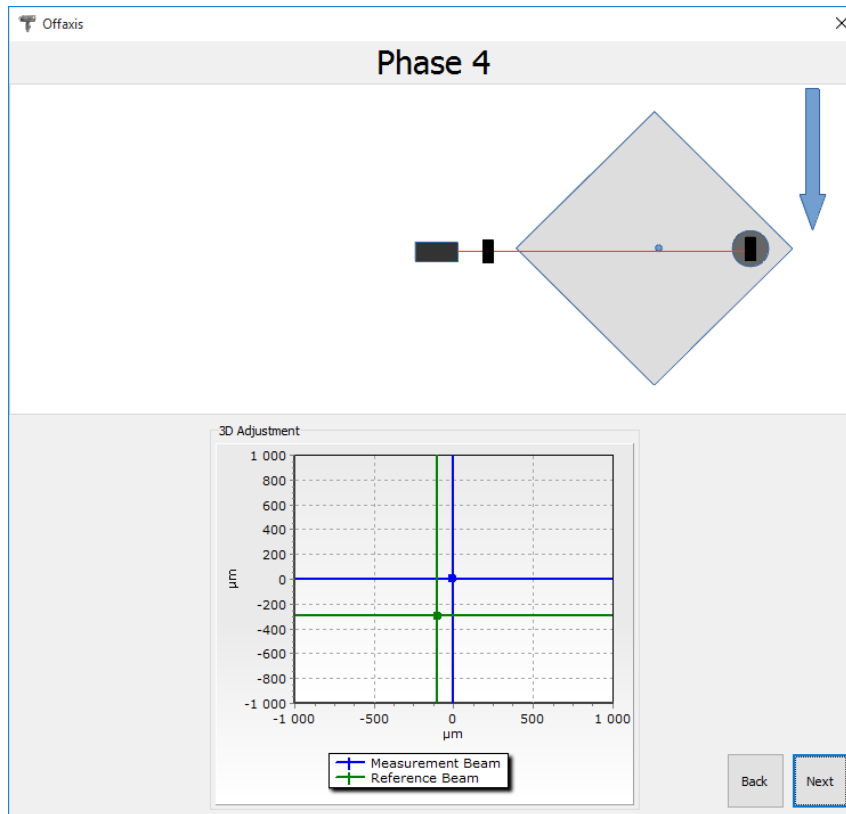

FIG.14.20. PHASE 4 OF THE OFF-AXIS PATH GENERATION
- 4) **Phase 4** – Machine is to be moved in the linear Main axis until the crosses return to the position they were during Phase 1 (see Figure 14.20).